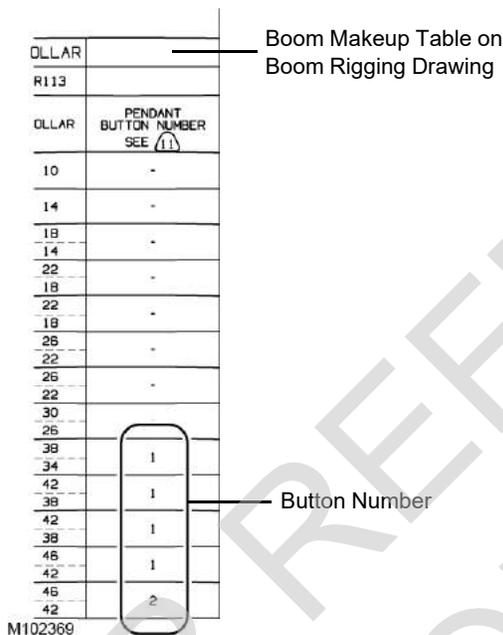

Figure 4-67
1. Make sure the intermediate suspension insert (2) is installed at the proper location in the boom.
2. Refer to Boom Rigging Drawing at the end of this section to determine the pendant button number that must be pinned to the sockets (see the example in Figure 4-67).
3. Remove the socket locking pins (4, View B) and raise the sockets (5) from the shipping position to the rigging position (View C).
5. Disconnect the pendant hooks (6, View F) from the brackets (7).